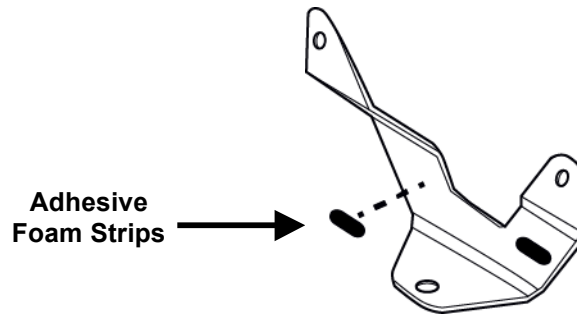

Figure 1
2. Attach two Adhesive Foam Strips on the Relocation Bracket as shown in Figure 1.